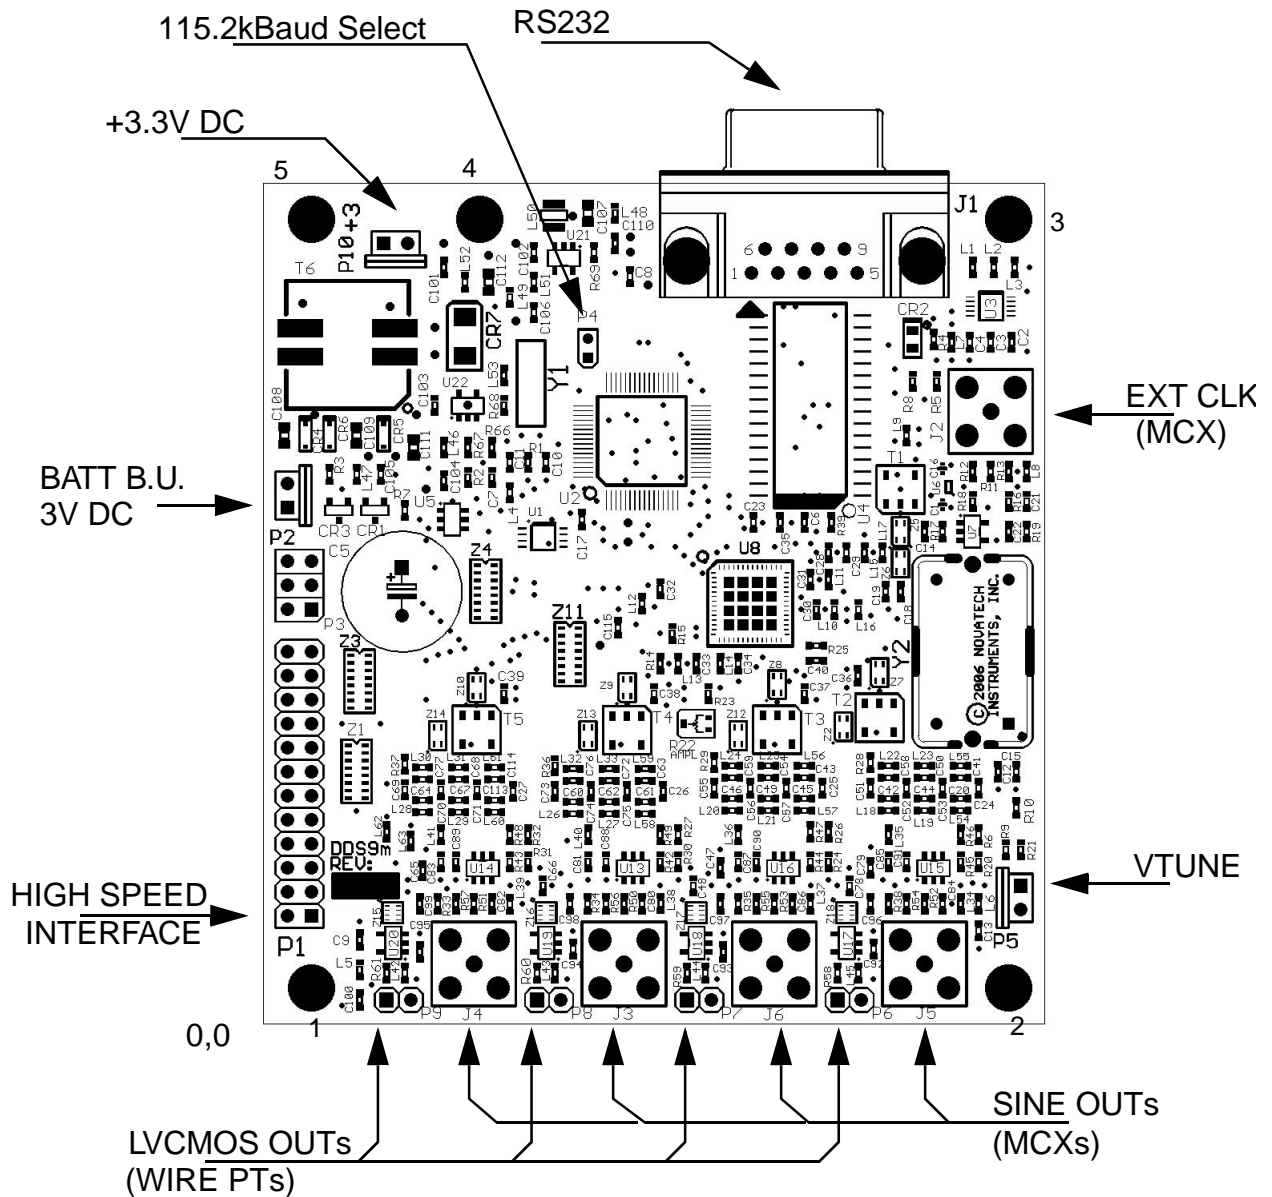

Figure 1: Component Placement
3.1 **Power Connection.** Figure 1, Connection Placement Diagram, shows a top view of the DDS9m module. The required power of +3.3Volts DC is applied through a 2-pin connector (mates with Amp 640621-2). If you are using a Novatech Instruments, Inc. supplied connector, Red is +3.3VDC and Black is the common return.
3.15 Mounting. Five mounting holes are provided on the board. These holes are electrically connected to circuit common and may be used for shield connections. Clearance is provided for up to 3mm diameter screws. Please allow at least 3 mm clearance on the bottom side when mounting to a conductive chassis or case. Refer to Table 3 and Figure 1 for locations.
A jumper is provided to select 115.2kBaud as the default Baud Rate. Refer to Figure 1 for location. When the 2mm jumper is moved so the header pins are open, 115kBaud is selected. It is suggested that the jumper be left on a free pin for future use.